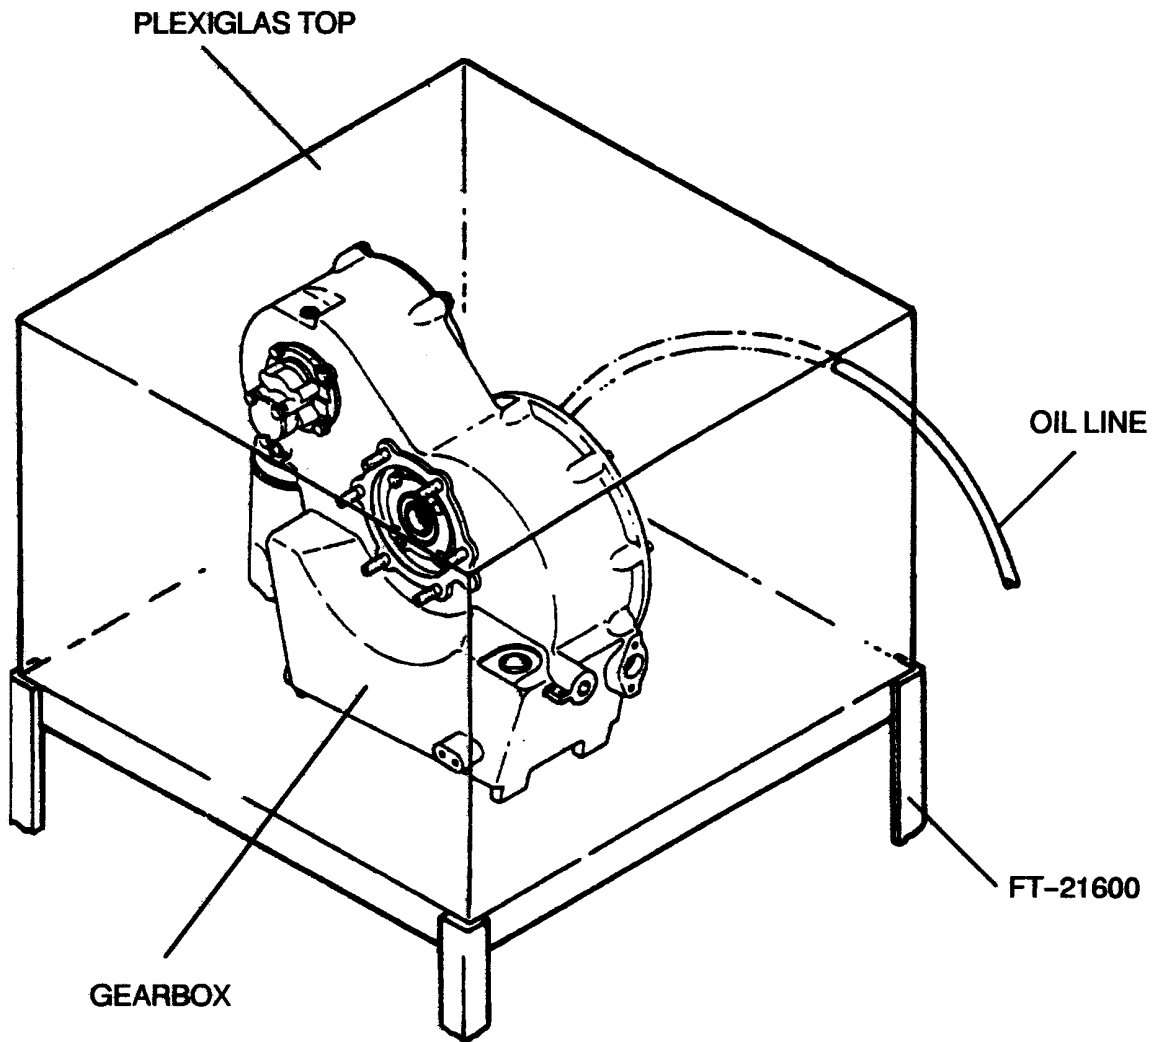

Figure 8-25. Using Oil Impingement Test Stand, Fabricated Tools FT-21600
(32) Install oil pressure relief valve (8) and key washer (6) in gearbox housing Secure with retaining ring (5) and bend down tab on key washer.
(33) Lubricate preformed packing (3) and install on oil sediment strainer (4).
(34) Install oil sediment strainer (4) and key washer (2) in gearbox housing Secure with retaining ring (1) and bend down tab on key washer
(35) Lubricate preformed packing (16) and install on oil supply union (15) Install oil supply opening Torque to 70-80 inch pounds (7.9-9.0 Nm)
(36) Install washer (18) and oil filter adapter (17) Torque to 300-400 Inch pounds (33.9-45.2 Nm)
(37) Install gearbox housing assembly in oil impingement test stand, fabricated tool FT-21600 (See Figure 8-25).
(38) Install test oil filter and dummy oil pump. Attach hose to dummy oil pump Turn on test stand motor